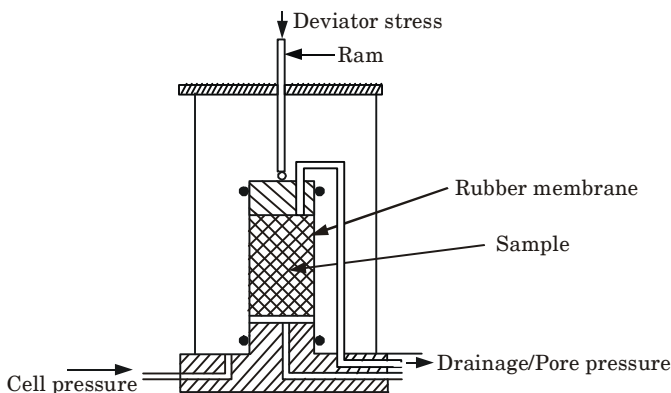

Fig. 4.16.1.
- A diagrammatic layout of a triaxial test apparatus is shown in Fig. 4.16.1.